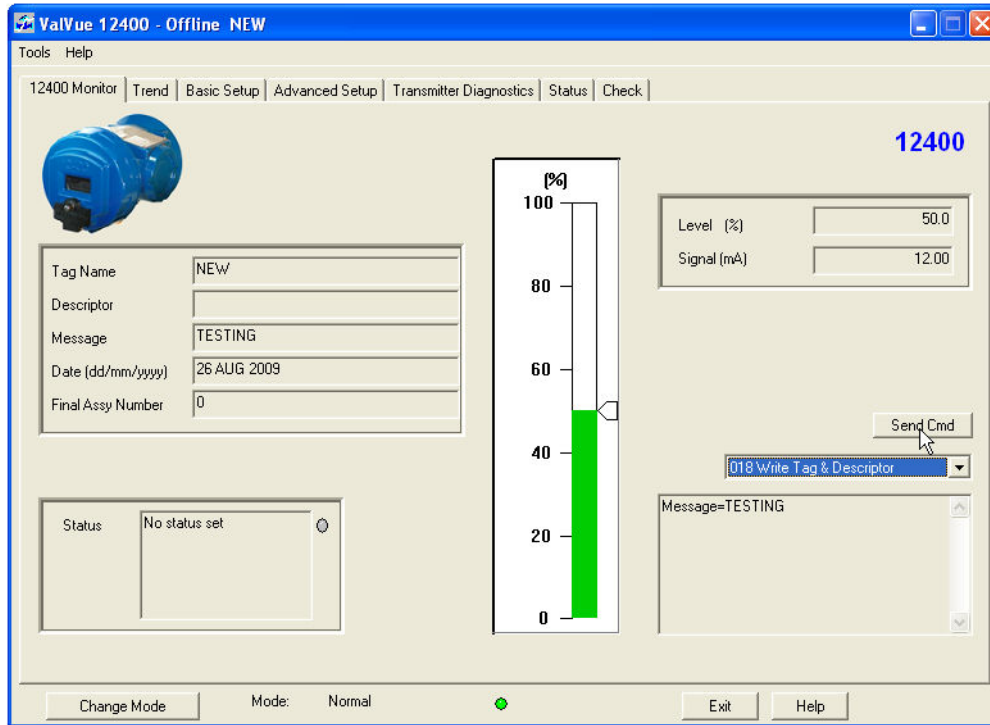

Figure 114 Executing Send Cmd
2. Click **Send Command** (Figure 114)